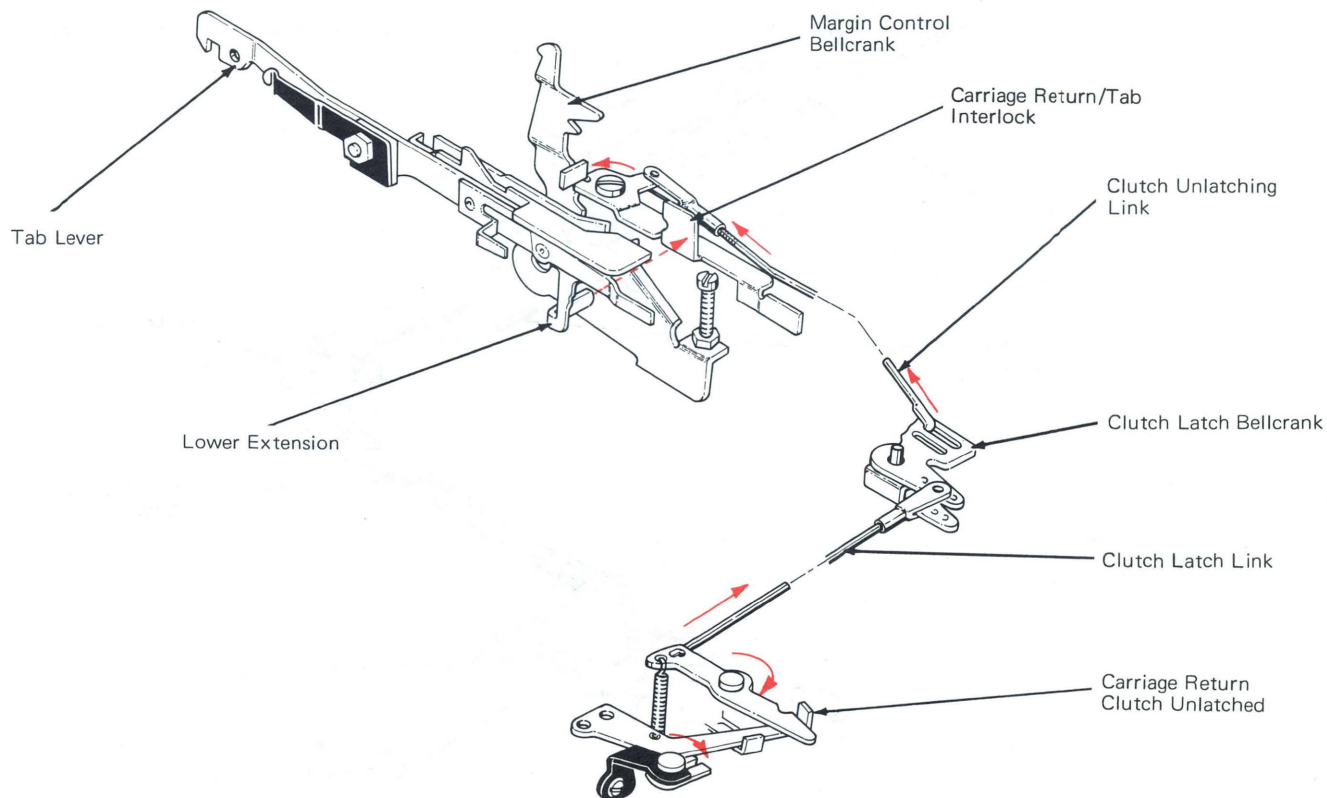

Figure 12 – Carriage Return/Tab Interlock (C1, D1)
2. When carriage return and tab are operated together or if tab is operated while the carriage return is in operation, the tab operation will override the carriage return operation by operating the interlock and unlatching the clutch. When the tab is operated, the tab lever pivots to the rear. The lower extension on the tab lever pivots the carriage return/tab interlock and releases the carriage return clutch (Figure 12). This interlock feature is used to get a partial carriage return and tabulation to the closest set tab stop by touching the tab key just after the carriage return key. This is used to prevent carriage returns all the way to the left margin after each line while typing column work.